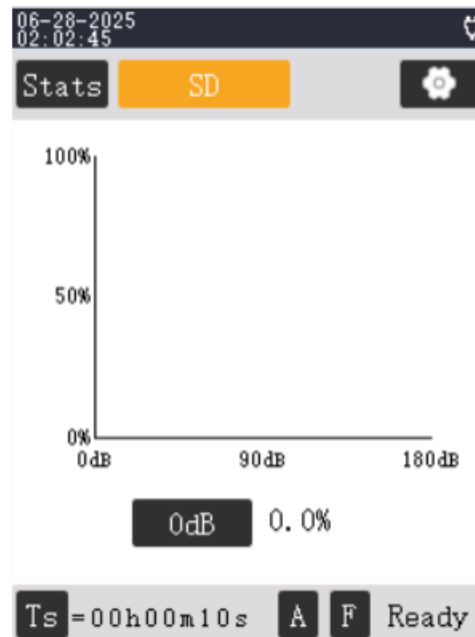

Figure 6.11
statistical distribution (SD), as shown in Figure 6.11. This graph shows the distribution of sound pressure levels during the measurement.